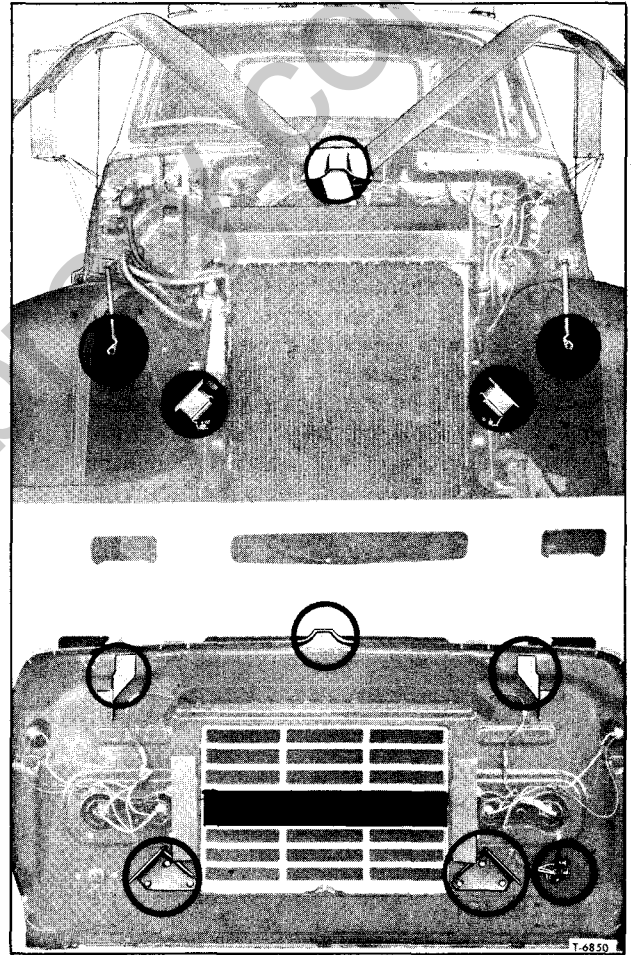

Figure 2—Radiator Shell Replacement (Typical)
NOTE: The following explains procedure for replacing the radiator shell assembly less the radiator core and support as shown in figure 2, except HM and JM 80 Models which should be
REMOVAL (Refer to Fig. 2)
4. Support front end of hood center panel by placing a prop between top of engine and center panel. (See upper view of figure 2.)